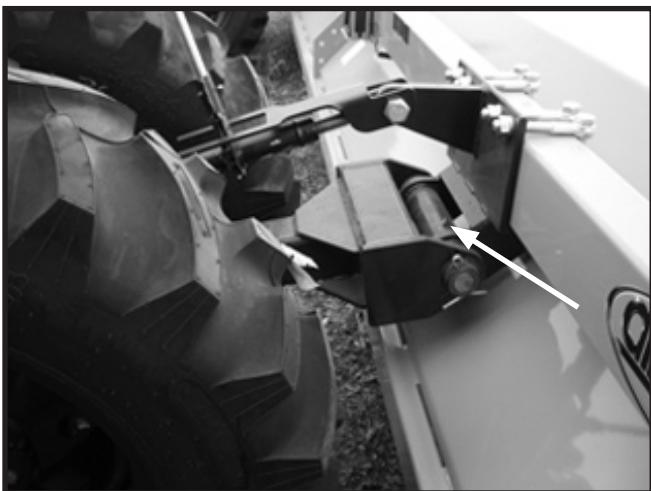

Figure 33. Wheel Strut Pivot Bearing Lubrication Points
3. Lubricate wheel strut pivots (3 to 5 locations). See Figure 33.